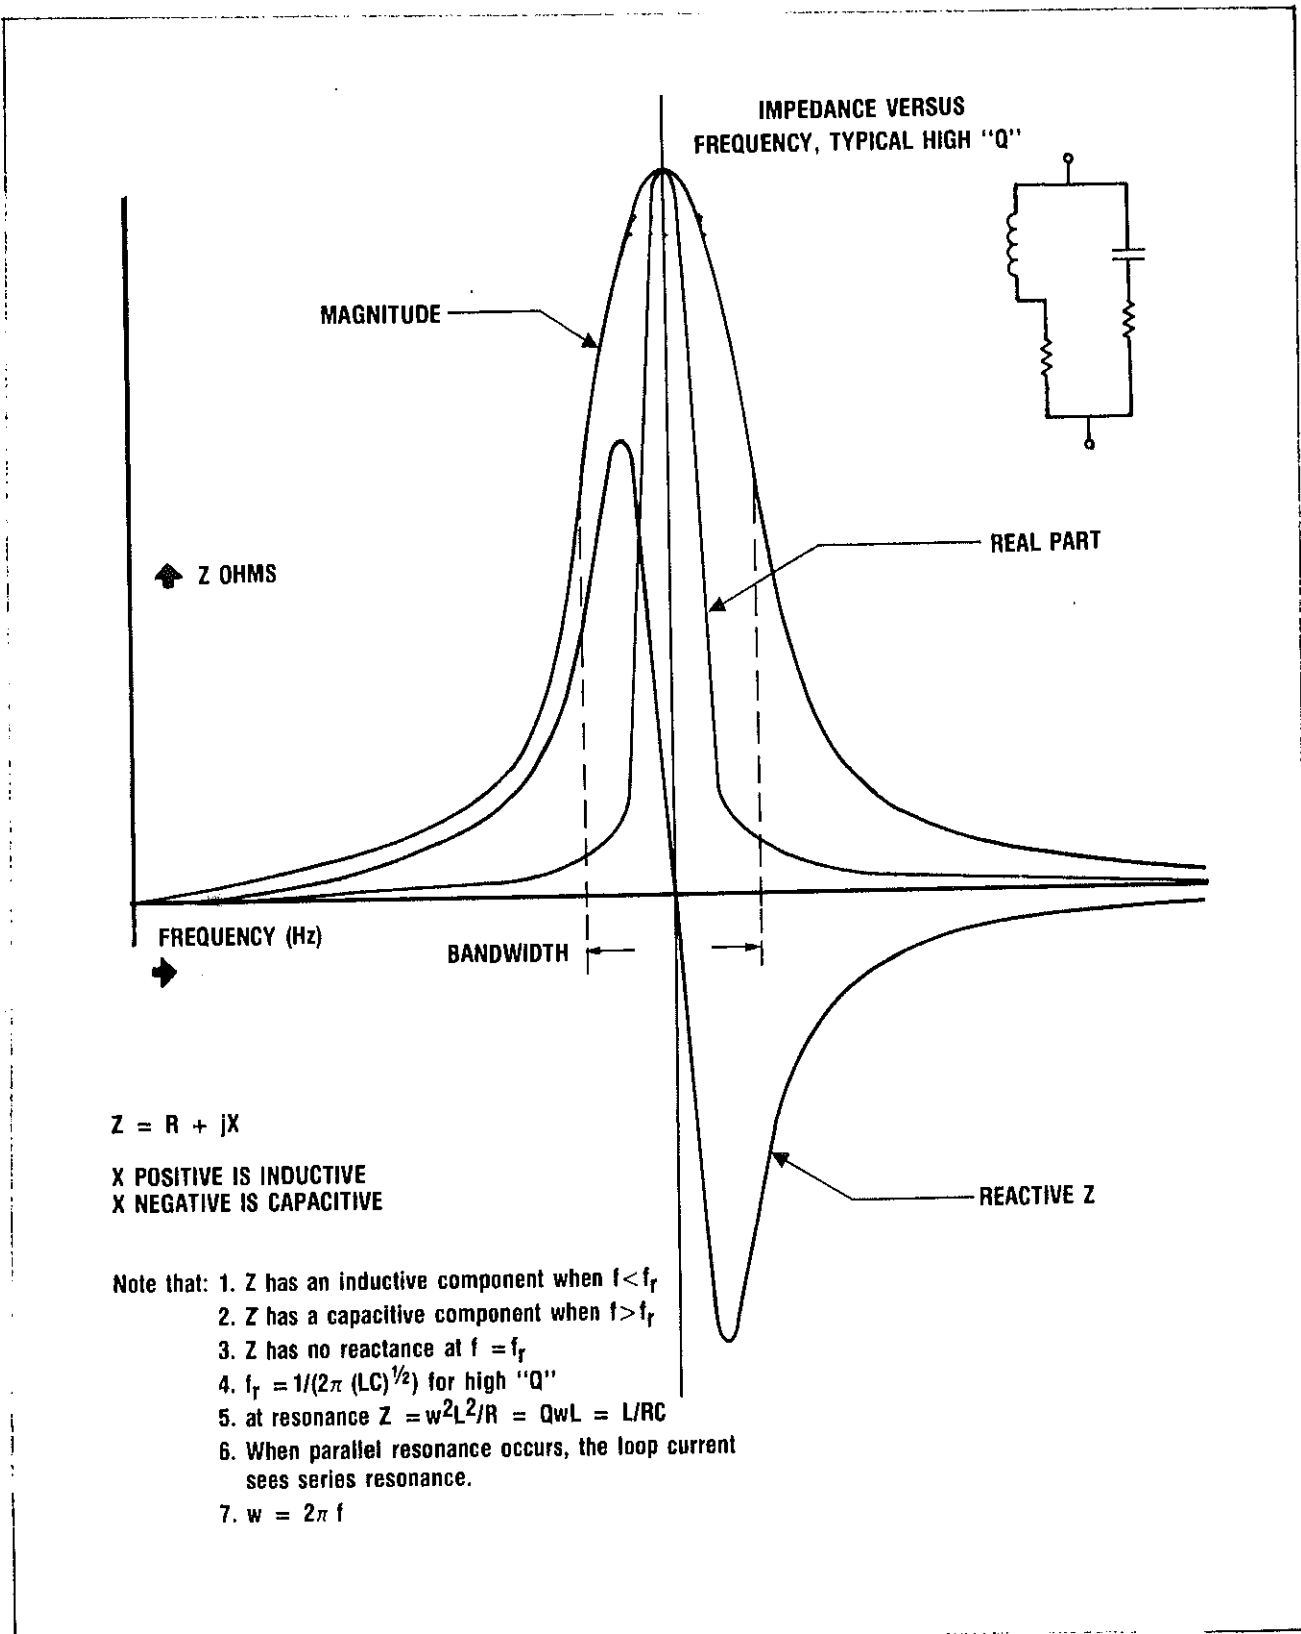
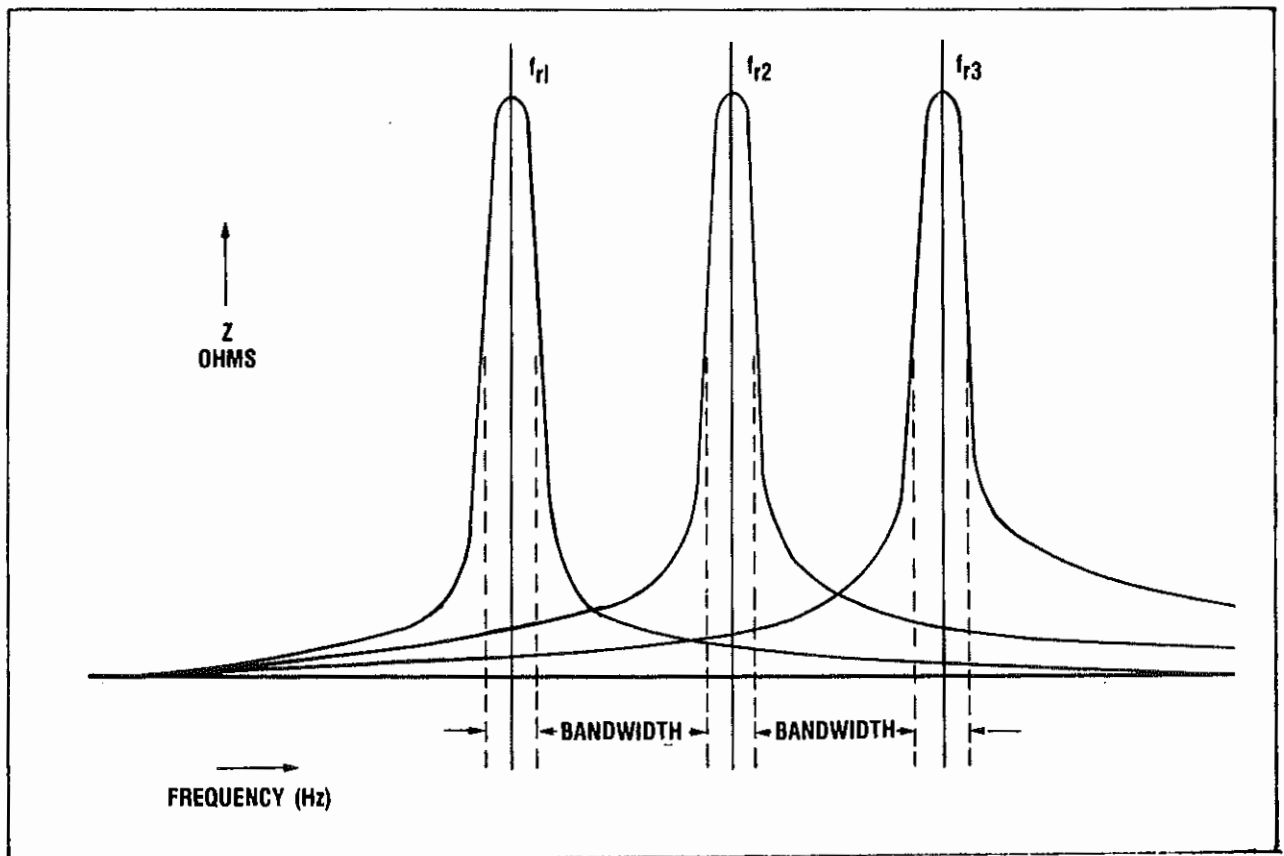
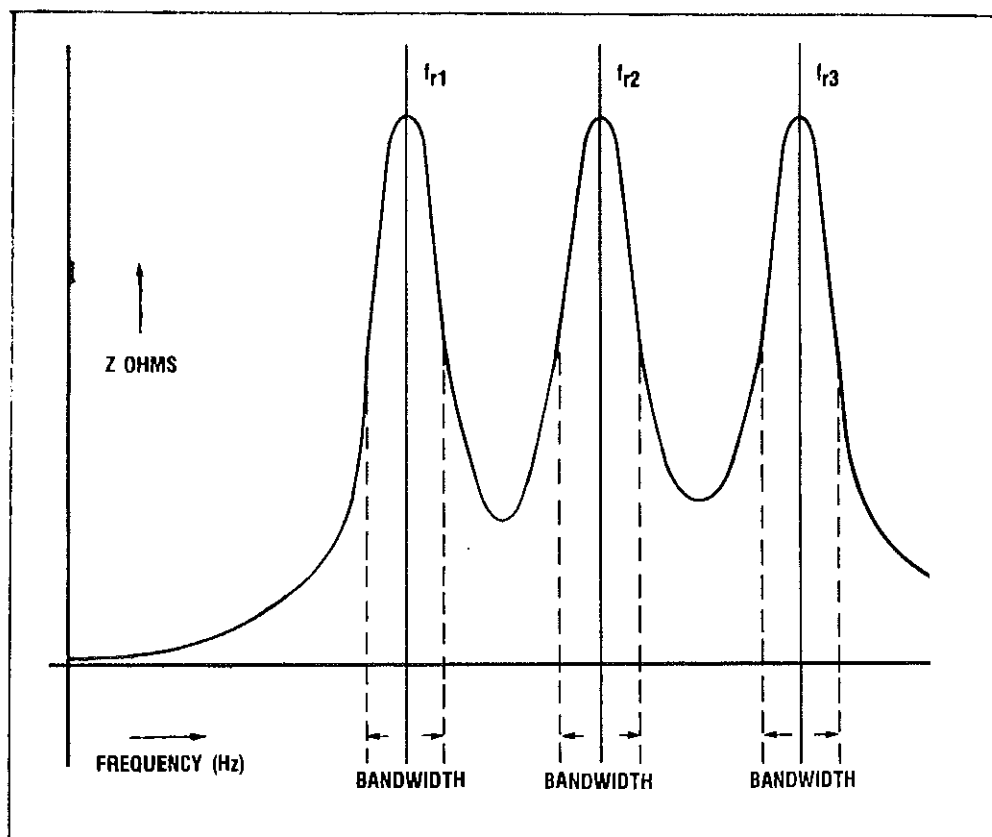

Figure 3-6. Parallel Resonant Circuit
Figure 3-7. Impedance Versus Frequency
Figure 3-9. Impedance Versus Frequency
The following discussion assumes knowledge of parallel resonant circuit characteristics. Figure 3-6 illustrates the general characteristics of a parallel resonant circuit having a high circuit "Q". Figures 3-7 and 3-8 illustrate relative impedance characteristics of three high "Q" parallel resonant circuits having (1) different resonant frequencies and (2) non-overlapping bandwidths.
Refer to Figure 3-7. Note that the impedance at the resonant peaks is much greater than the impedances between the peaks. The impedance at a peak of one circuit is much larger than the sum of the magnitudes of the other circuit impedances.
Figure 3-9 illustrates the magnitude of the impedance for the three parallel resonant circuits of Figures 3-7 and 3-8 connected in series. Note that this curve appears similar to Figure 3-7. It is possible that the impedance peaks will occur at frequency values slightly different than those in Figure 3-7.